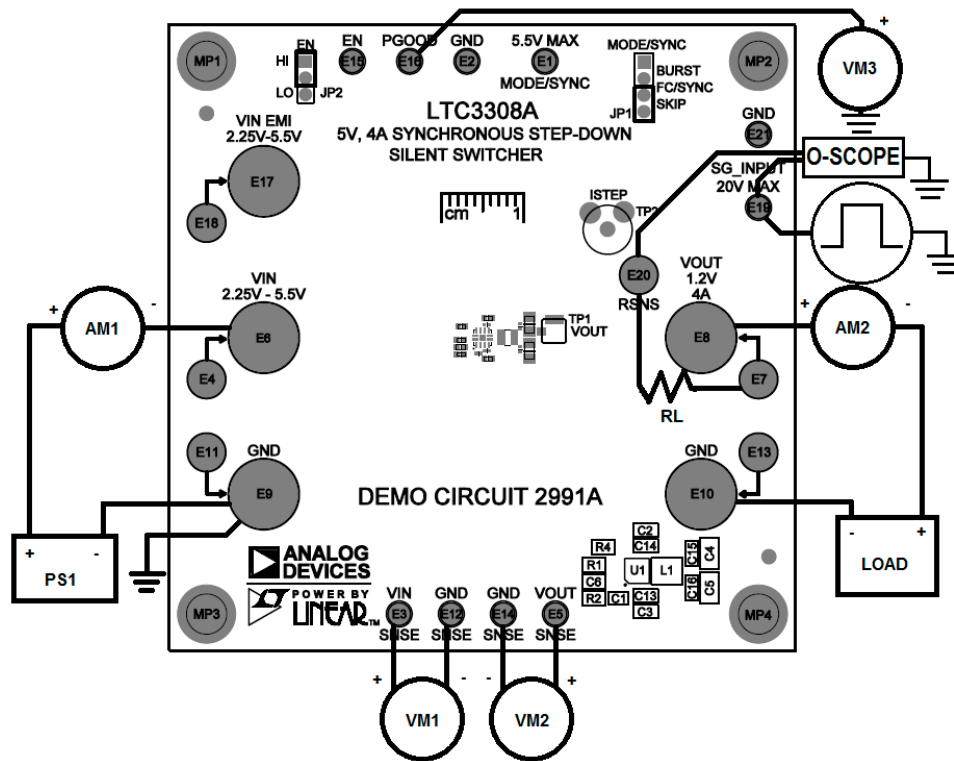

Figure 1. Test Setup for the DC2991A Demo Board
Demonstration circuit 2991A is easy to set up and use to evaluate the performance of the LTC3308A. Refer to Figure 1 for proper measurement equipment setup and follow the procedure below.
**NOTE:** For accurate  $V_{IN}$ ,  $V_{OUT}$  and efficiency measurements, measure  $V_{IN}$  at the  $V_{IN}$  SNSE and GND SNSE turrets and  $V_{OUT}$  at the  $V_{OUT}$  SNSE and GND SNSE turrets as illustrated as VM1 and VM2 in Figure 1. When measuring the input or output voltage ripple, care must be taken to avoid a long ground lead on the oscilloscope probe.
13. To test the transient response with a base load, add the desired resistor to produce a minimum load between  $V_{OUT}$  and RSNS turrets ( $R_L$  shown on Figure 1). Note that the total load resistance will be  $R_L$  plus R11 (100m $\Omega$ ).